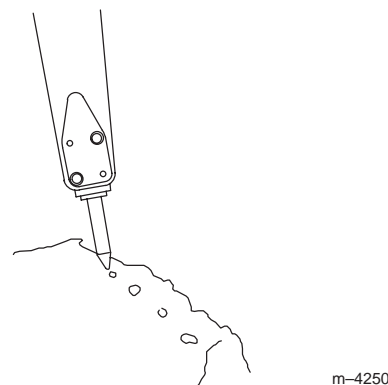

Figure 3
- Many materials do not respond well to continued hammering in one place. Move the breaker each time that it penetrates the material without breaking it. When you move the breaker to a new location, move it in a line parallel to the edge of the material, about 3 inches from the previous hole. This will score the material and if done repeatedly, break off a large piece of the material (Fig. 3).